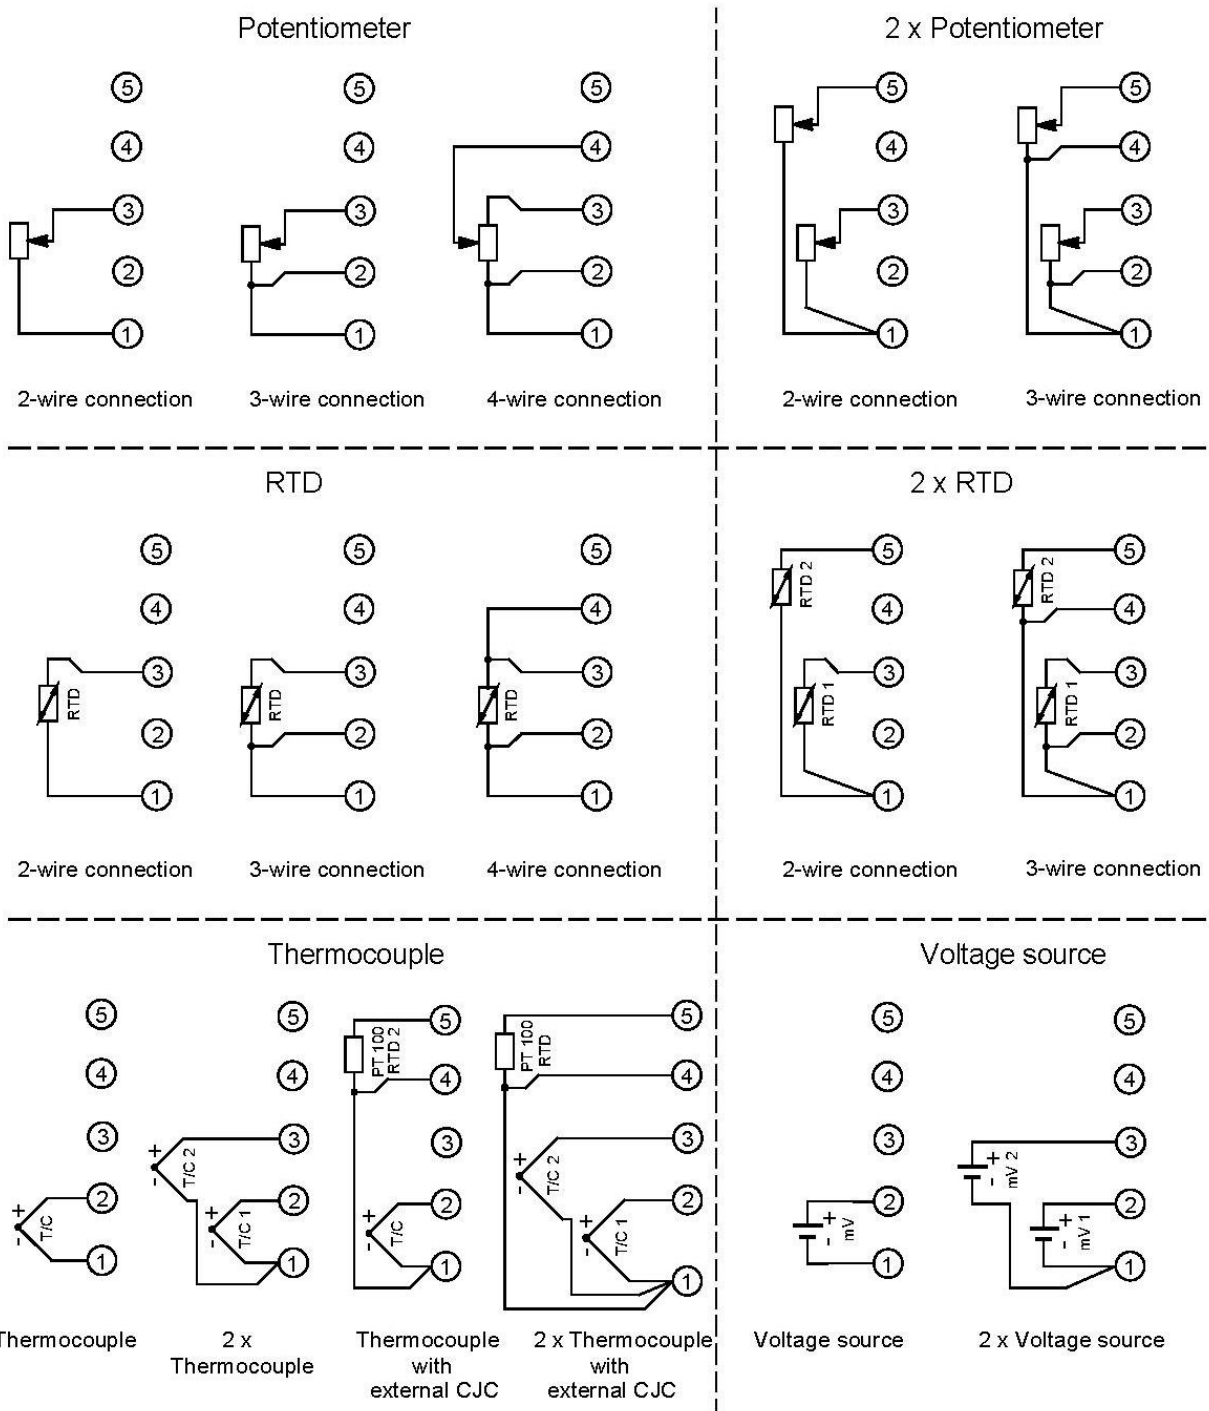

Figure 3. Methods of connecting sensors, potentiometers and voltage sources.
- type of the mathematical function processing the signal from two sensors (2 x RTD 2-wire connection, 2 x RTD 3-wire connection, 2 x thermocouple, 2 x thermocouple with external CJC (see →Figure 3. Methods of connecting sensors, potentiometers and voltage sources.)):